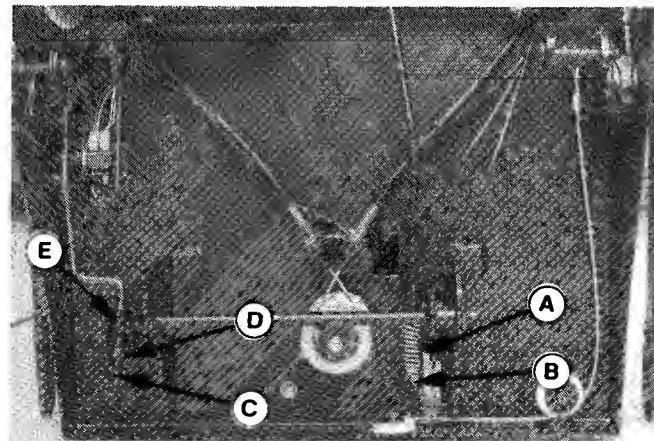

Figure 20. (Viewed from underneath front of rider.)
2. The clutch rod spring (A, figure 20) should measure 2 to $2\frac{1}{8}$ " along the long side. To adjust, tighten or loosen the nut (B).
3. Pull the brake rod (C, figure 20) toward front as far as possible. Tighten or loosen the nut (D) to achieve a gap of $3/8$ inch between rear surface of nut and the guide that rod extends through.